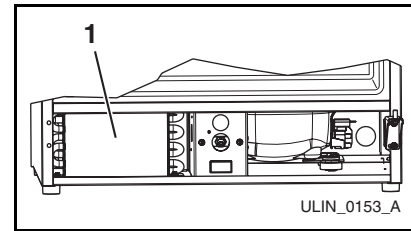

Figure 12
5. Clean the condenser coil (**Figure 12, 1**) using a soft brush with a “combing” action or vacuum cleaner. Do not touch the condenser coil.